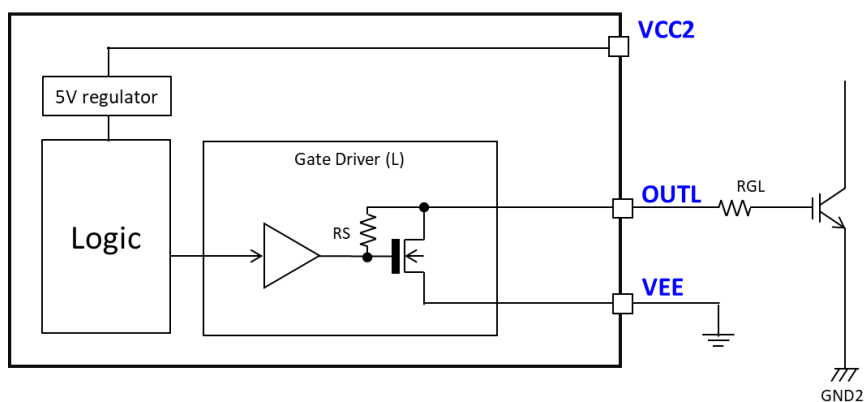

Figure 39 Block diagram of active pulldown
- Active pulldown resistance can clamp the OUTL pin to VEE when VCC2 is open. (Figure 39)